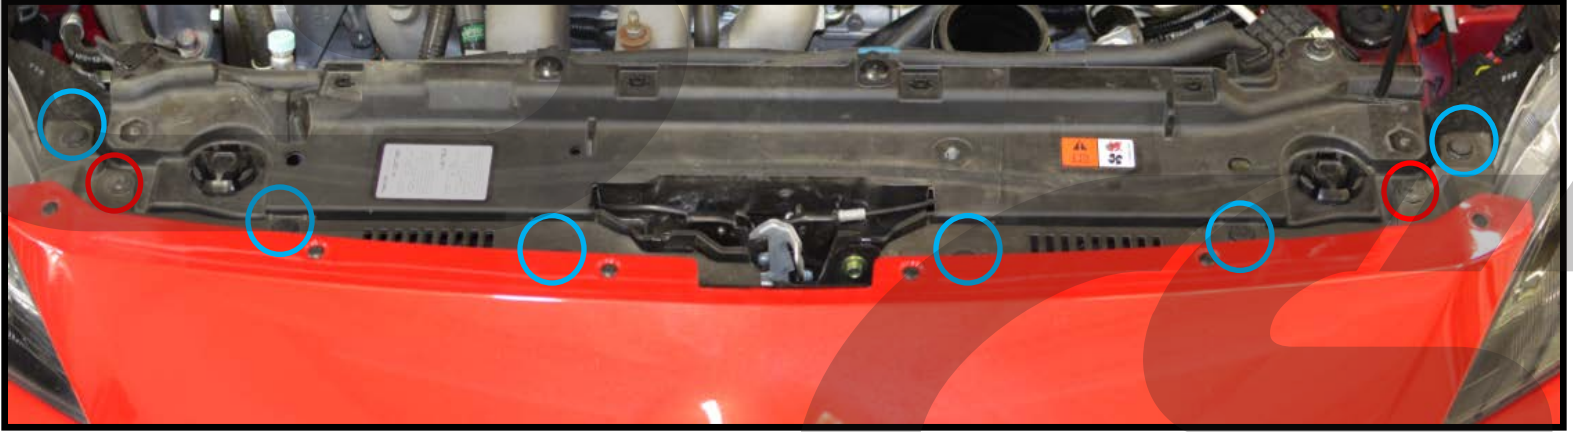

Figure 3h
- f) **Remove the push clips and screw at the top of the bumper.** Use a flat head screwdriver to remove the push clips circled in blue and use a #2 phillips screwdriver to remove the screws circled in red shown in **Figure 3h**.